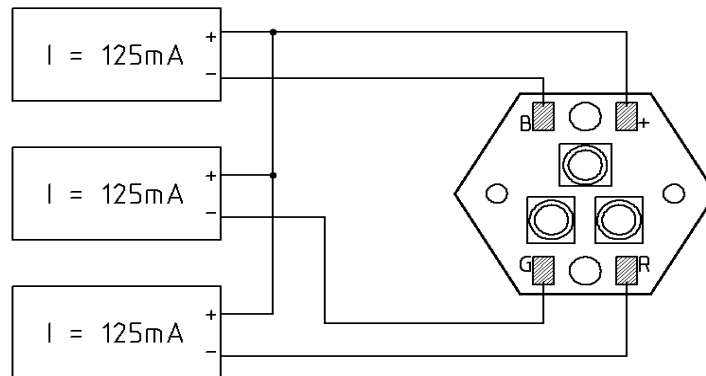

Fig.2. Current power of RGB 4550 LED module.
- substrate shape that allows to connect RGB 4550 modules in hexagonal matrices (Fig.2),